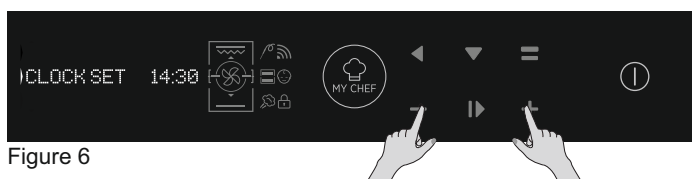

Figure 6
- Set the time by pressing the PLUS and MINUS buttons. Press OK to go ahead. (Figure 6)